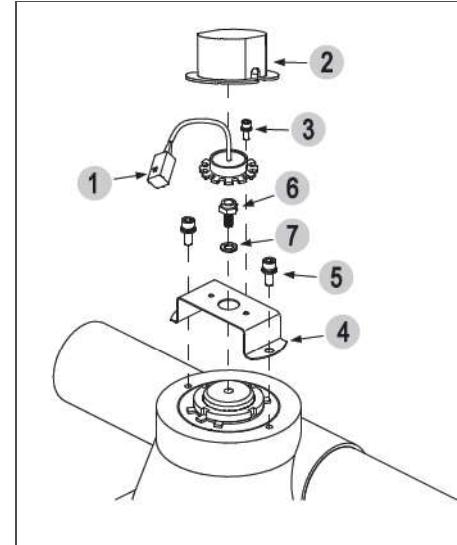

Figure 5-6 Steering Potentiometer
2. Install the steering potentiometer according to paragraph Figure 5-6
5. Remove the main wire harness from steering potentiometer (1, Figure 5-6)
6. Remove the rubber shield (2).
7. Remove the two mounting screws (3).
8. Remove the remove the steering potentiometer (1) from the mounting bracket (4).
9. Remove the two mounting screws (5).
10. Remove the mounting bracket (4) from the rear steering axle.
11. Remove the bolt (6) and washer (7) from the rear steering axle.